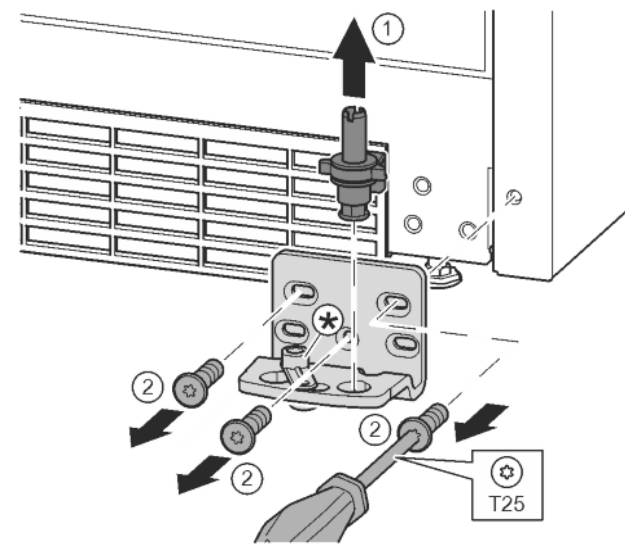

Fig. 14
- Lift the bearing pin completely upward and remove. Fig. 14 (1)
- Undo the screws with a T25 screwdriver and remove the bearing bracket Fig. 14 (2)